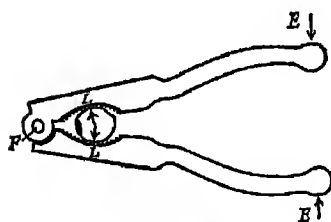

FIG. 145.
3. A pair of **nut-crackers**. This is a double lever of this class. Examine a pair. Find the position of the fulcrum, load, and effort (Fig. 145).